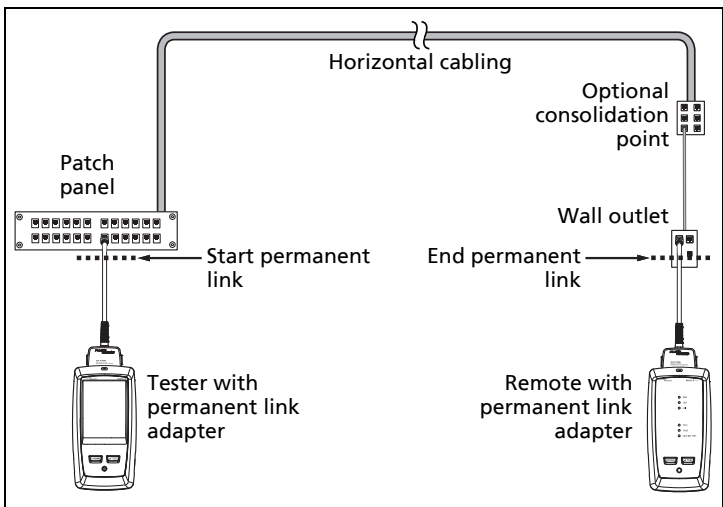

Figure 3. Permanent Link Connections for Links Up to Cat 7_A
- 4-1 Connect the testers to the link as shown in Figure 3 or 4.